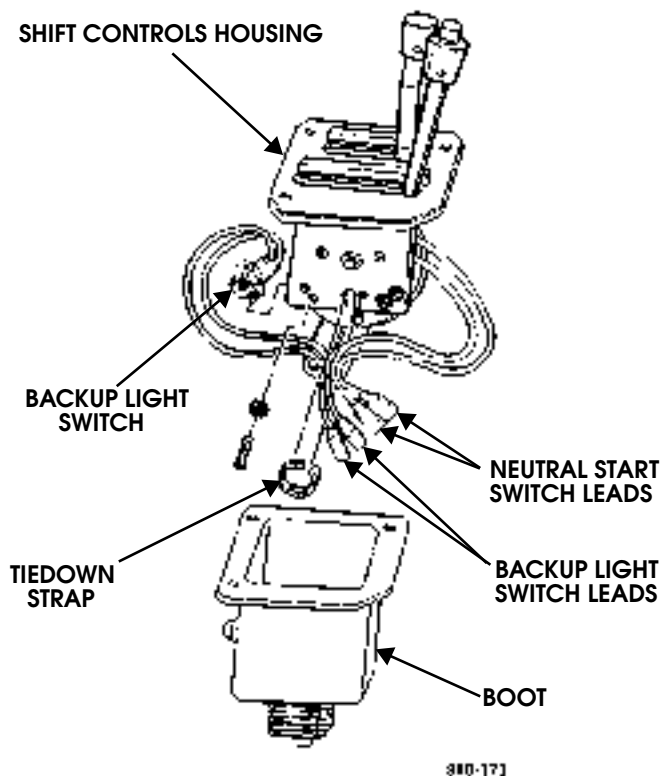

Figure 10-174: Backup Light Switch Replacement
2. Pull neutral start switch leads, backup light switch leads, and light lead through boot and remove boot from shift controls housing (Figure 10-174).
1. Secure backup light switch to neutral start switch with tiedown strap (Figure 10-174).